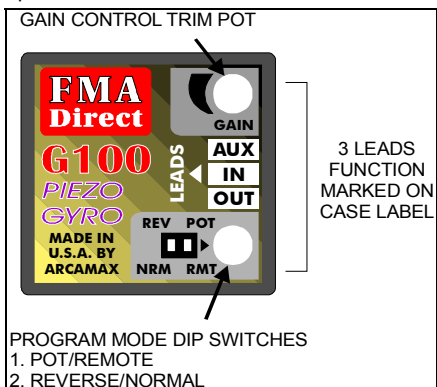

FIGURE 1
Referring to FIGURE 1, set the program mode dip switches as shown. The POT/RMT switch should be closer to POT and the REV/NRM switch should be closer to NRM. Use a small screw driver to change the settings on the dip switches if necessary. Bench test the gyro by turning on the transmitter and the receiver at this time. After 15 seconds, the servo connected to the gyro will center. **In normal operation, the model must be absolutely stationary for 5 seconds every time the receiver is powered up.** If this procedure is not followed, trim changes will result from flight to flight. Move the model about the sensitive axis (or control axis). The servo should move as the model is rotated.
- a) re-verify that the gyro is in "trim pot gain" mode (explained in detail later) by adjusting the dip switches as shown in FIGURE 1.